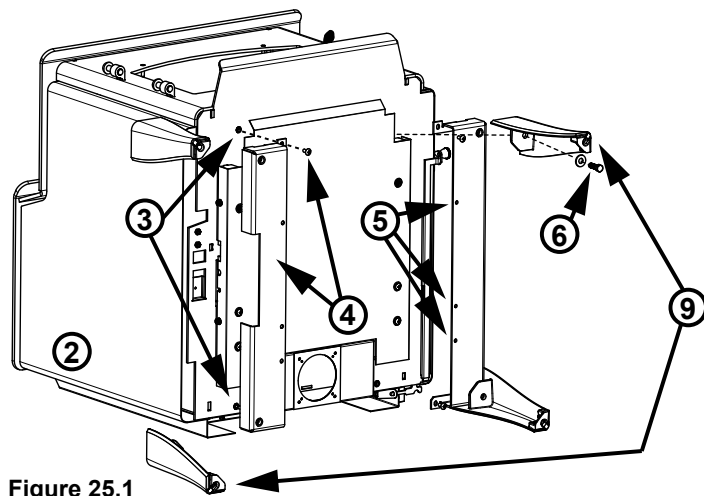

Figure 25.1
3. Remove four screws from bottom of appliance (Figure 25.1).
NOTE: There is a right and a left of the leg brackets (Figure 25.1).
5. Install six screws to the bottom of the leg brackets (Figure 25.1).
NOTE: Legs with leveling bolts need to be on opposite sides of the appliance - one in the front and one in the back (Figure 25.1)